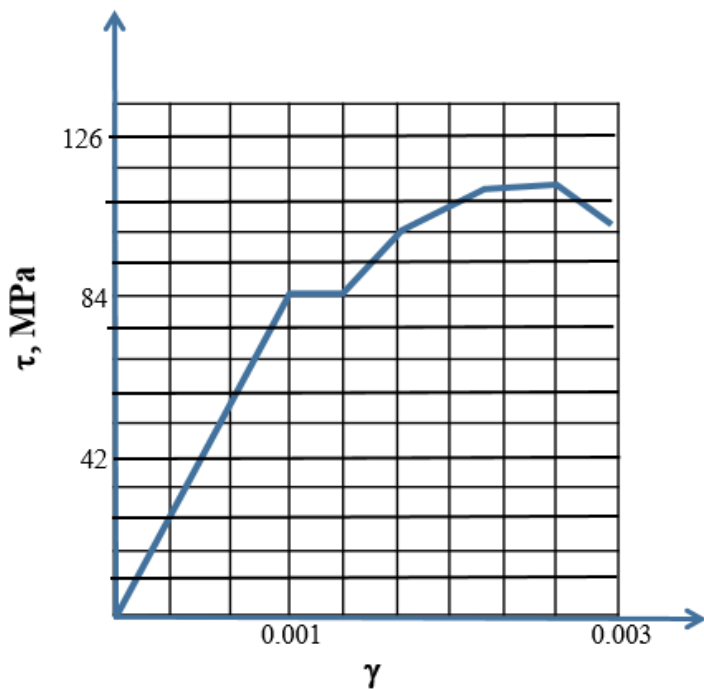
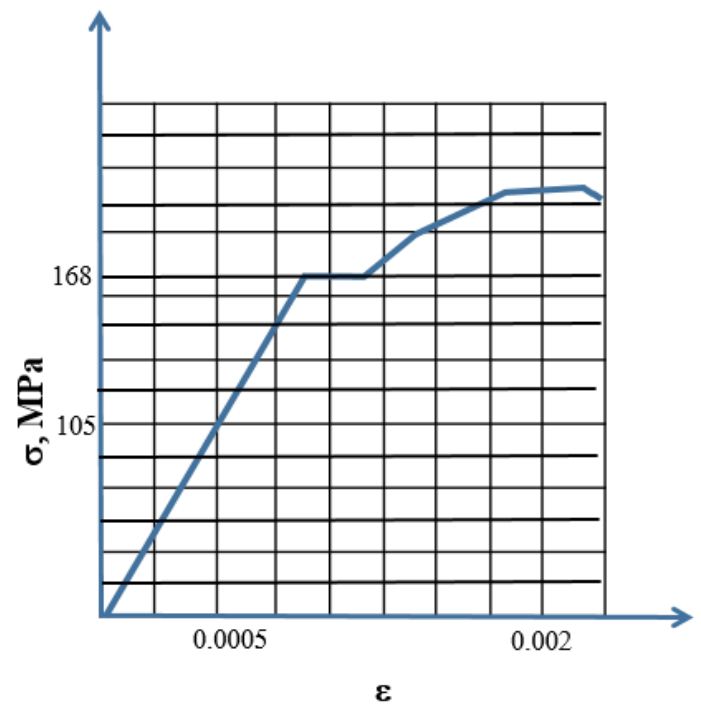

Figure 10a: Torsional test result
Figure 10b: Tensile test result
1. For design purpose, an engineer is interested in the Poisson ratio of a material. However, this data was not provided by manufactures, but only the torsion (**Figure 10a**) and tensile (**Figure 10b**) test data as shown below.
- a) Using the test results (i.e **Figure 10a &b**), please estimate the Poisson ratio of the material.